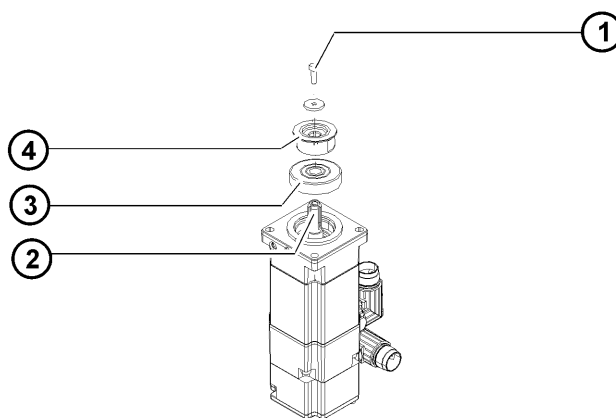

Fig. 11-23: Motor with toothed belt pinion
1. Remove all protective coatings and oil from new motor A5 (>>> Fig. 11-23), if applicable.